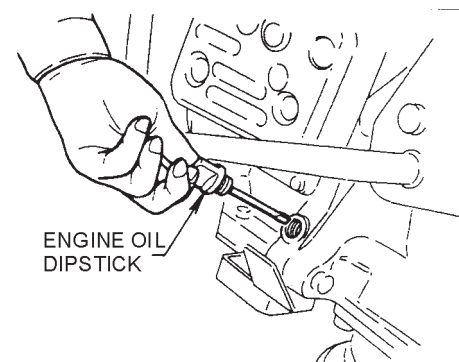

Figure 4. Engine Oil Dipstick
3. Check the engine oil level (Figure 4) and if the oil level is low, it should be refilled. Use the proper motor oil as suggested in Table 3.